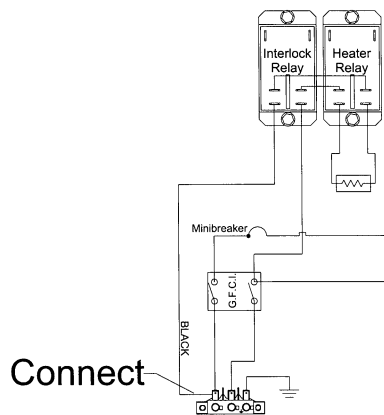

Figure 3B
7. Connect the heater interlock wire (black) to terminal L1 of TB-1 (refer to Figure 3B).